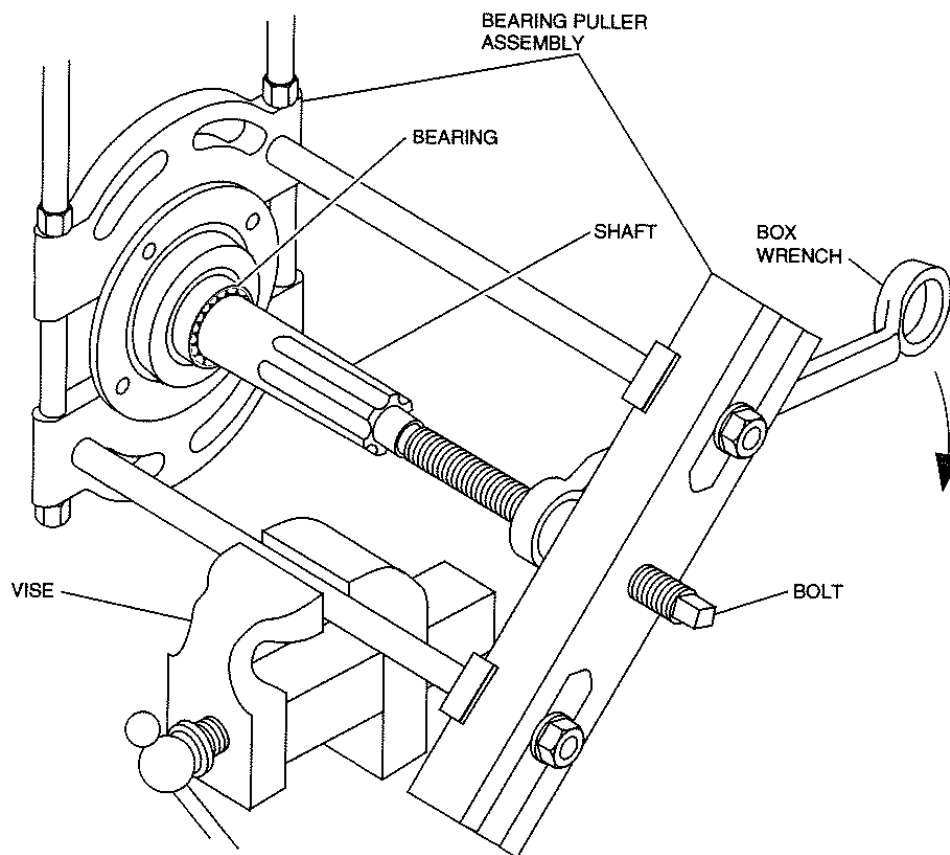

Figure 9.35 Removing Bearing, Using Manual Bearing Puller
Step 6: Turning the bolt slowly, using a wrench, to apply pressure. **Figure 9.35** shows removing a bearing using a manual bearing puller.